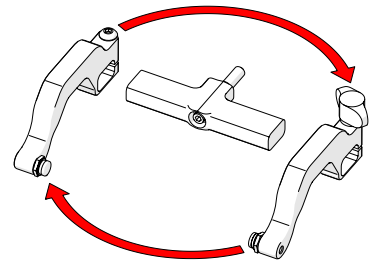

**Fig. 127** - Orient to opposite side
2. Position the yoke and arms to the opposite side of the probe holder (*Fig. 127*).